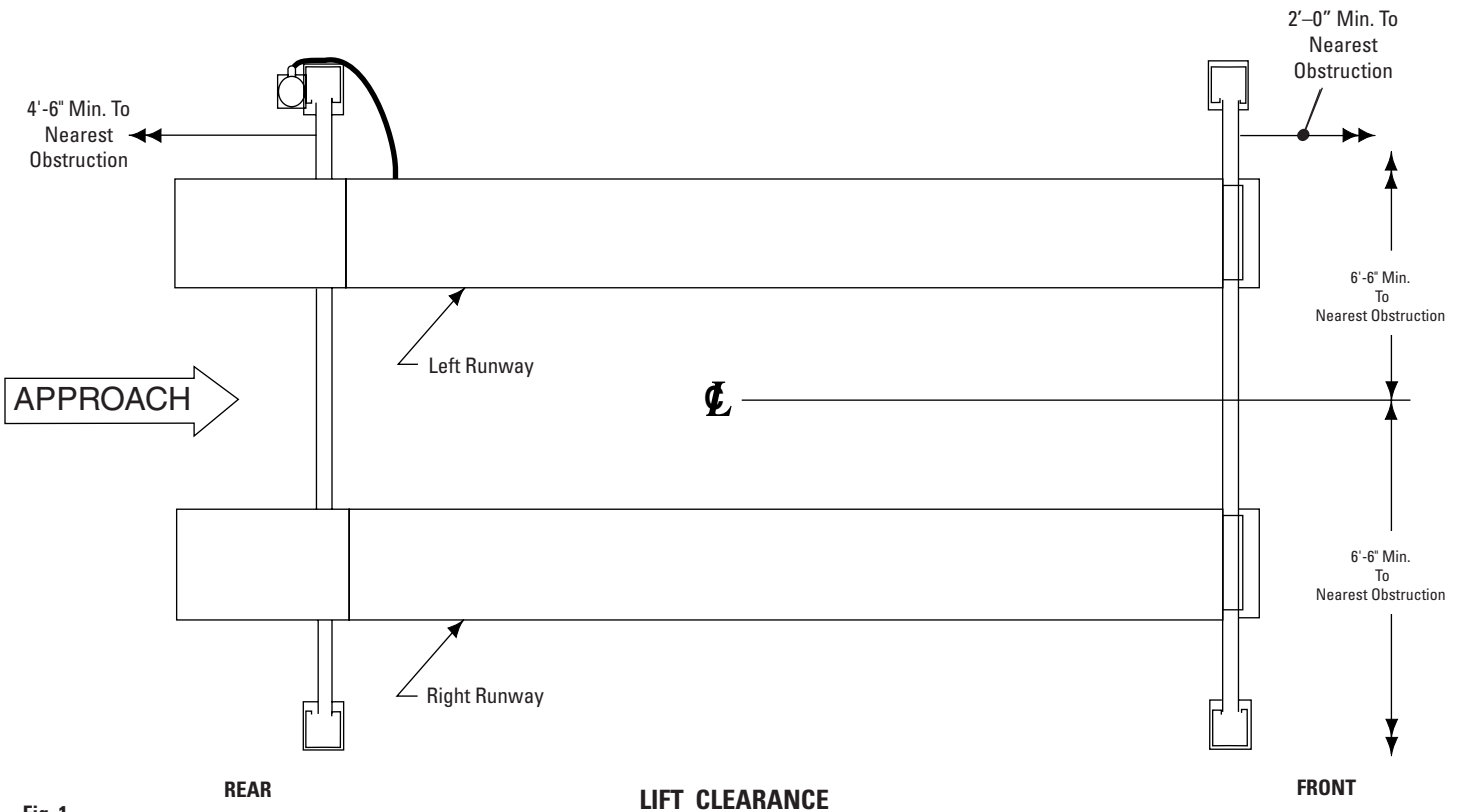

Fig. 1
- 1. Lift Location:** Use architects plan when available to locate lift. Fig. 1 shows dimensions of a typical bay layout. For power unit at right front, rotate lift 180°, leaving ramp/chocks and wheel stops in original position. Lift floor area should be level.
C. Position front and rear yokes at respective ends of runway, Fig. 1. The opening in the side of the yokes should be lined up with the cable sheaves in the runway ends. Feed cable ends through yoke openings, Fig. 4 and 9. Do not assemble sheaves in yoke ends at this time.
- Keep columns square to center line of lift. Check lift location in the bay, Fig. 1. Check dimensions side-to-side, front-to-rear, and diagonally. Diagonals must be equal to within $\frac{1}{4}$ ", Fig. 11.